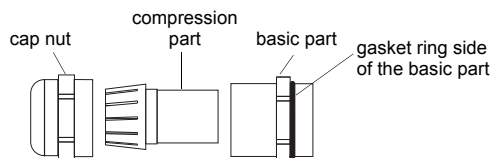

Fig. 5.15: Cable gland
- Push the power cable through the cap nut, the compression part and the basic part of the cable gland (see Fig. 5.15).
- Fix the cable gland by screwing the cap nut on the basic part of the cable gland (see Fig. 5.15).
- Push the output cable through the cap nut, the compression part and the basic part of the cable gland (see Fig. 5.15).